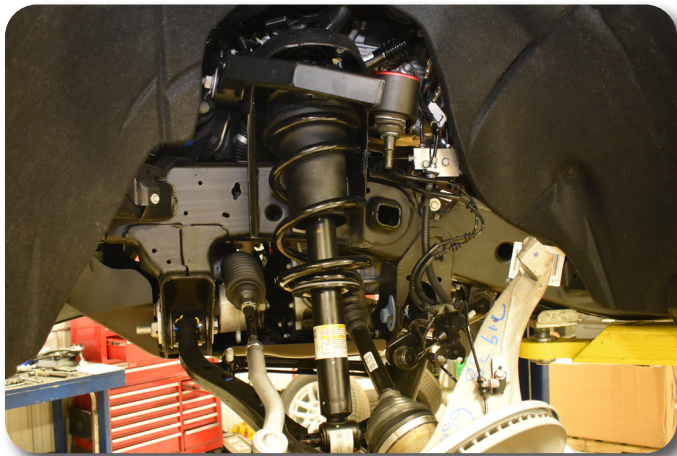

Figure 12
17. Reinstall the strut into the vehicle Figure 12. Leave the hardware loose.